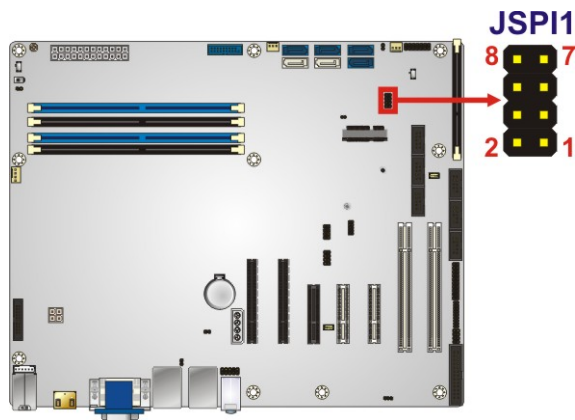

Figure 3-29: SPI Flash Connector Location
- CN Location:** See **Figure 3-29**